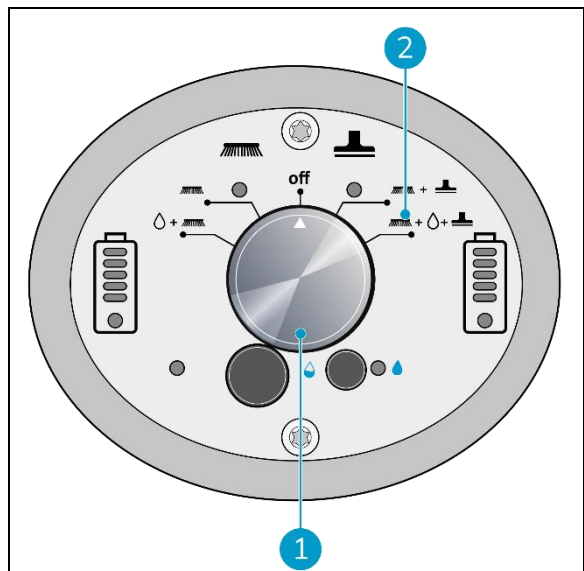

Figure 20
2. Use the i-mop® XL basic main switch (Figure 20, pos 1) and choose MODE 4 Brush + Water/Cleaning solution + Dry vacuum (Figure 20, pos 2).